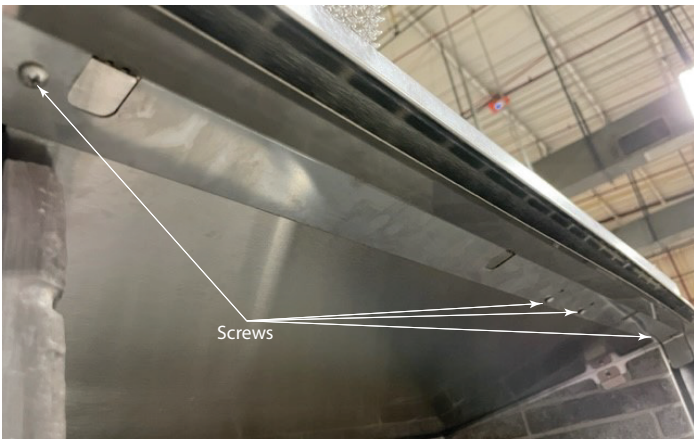

Figure 5
8. Position Lower Hood on front edge of firebox top, as shown. Secure the hood with (4) screws provided. See Figure 5.